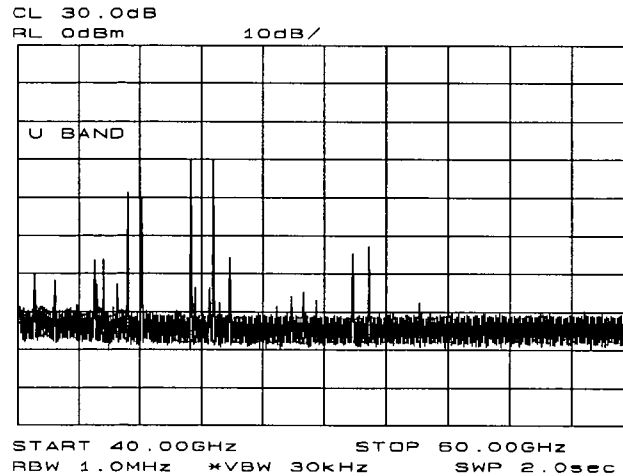

Figure 3-31. Select the band of interest.
1. Specify unpreselected external mixing by pressing **CONFIG**, then **EXT MIX PRE UNPR** until **UNPR** is selected. To select a frequency above 18 GHz, press **AUX CRTL**, **EXTERNAL MIXER** to set the analyzer to external mixer mode, and then enter the desired frequency directly using the center-frequency function. Note in Table 3-1 that some frequencies overlap and fall into two bands. To be sure that the desired band is selected, refer to Table 3-1 and select the desired frequency band, then use the full band function to enter this band. In the external mixer menu, press **FULL BAND**, then press the step up **▲** key until the letter preceding **BAND** in the active function area corresponds to the desired frequency band. In this example, we'll take a look at U-band, which ranges from 40 GHz to 60 GHz, as depicted in Figure 3-31. The **LOCK HARMONIC** function "locks" the spectrum analyzer in that band, ensuring that the spectrum analyzer sweeps only the chosen band. The **LOCK ON OFF** softkey is automatically set to ON when **FULL BAND** is pressed.